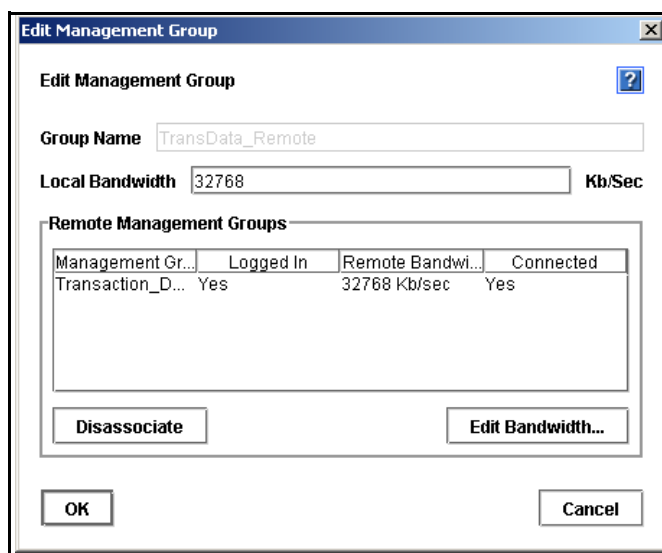

Figure 256. Editing a Management Group
2. Right-click the remote management group and select Edit Management Group. The Edit Management Groups window opens, shown in Figure 256.